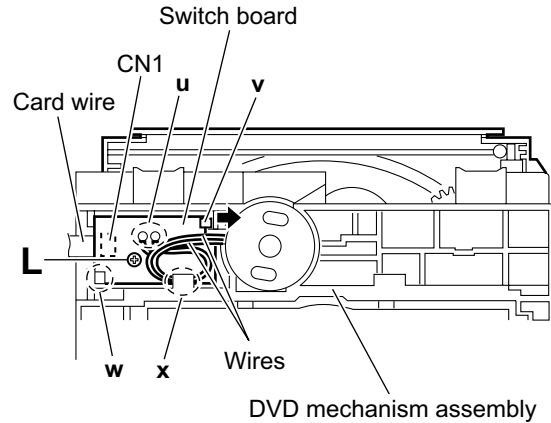

Fig.14
### 3.2.9 Removing the switch board (See Fig.14.)
### 3.2.10 Removing the motor (See Figs.14 and 15)
- (1) From the bottom side of the DVD mechanism assembly, remove the wires from the soldered section **u** on the switch board. (See Fig.14.)
Put the wires on the section **x** after attaching the motor to the DVD mechanism assembly. (See Fig.14.)